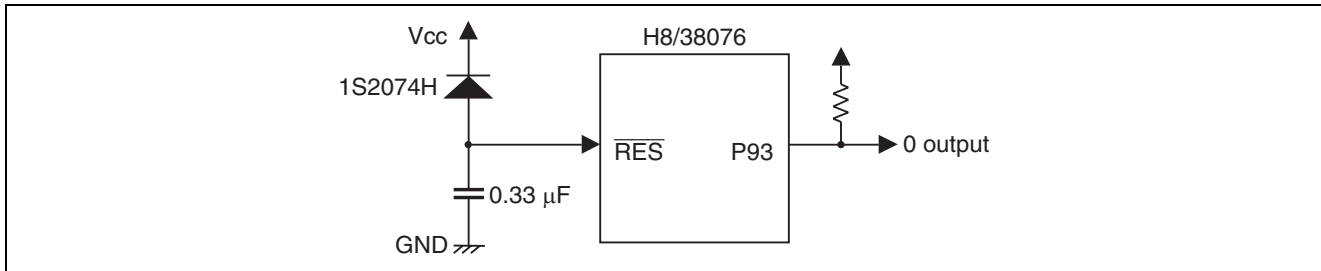

Figure 1 Connection of Microcomputer when Internal Power-On Reset Circuit Is Used
- The internal reset circuit of the H8/38076 performs power-on resets. Figure 1 shows an example of connecting the microcomputer for a power-on reset with the internal circuit.